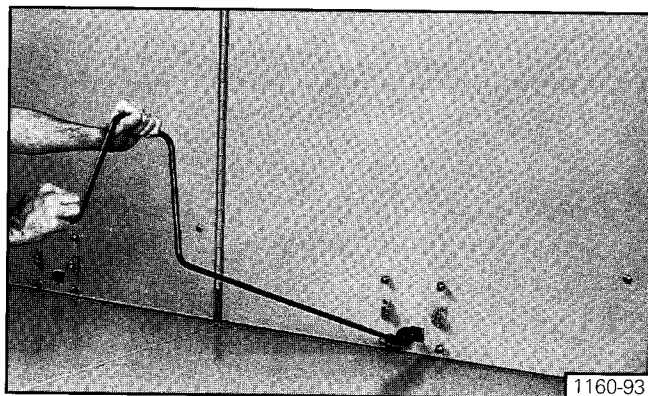

Figure 2. Racking of 38-3AF Circuit Breaker
1. Insert the racking crank on the racking screw on the front of the breaker cell, and push in (see "Racking Crank Engagement"). This action operates the racking interlock latch. **Figure 2** shows racking of a circuit breaker.